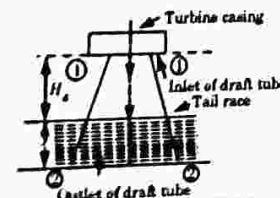

Fig. 5.17.2. Draft tube theory.
- Consider a draft tube as shown in Fig. 5.17.2.